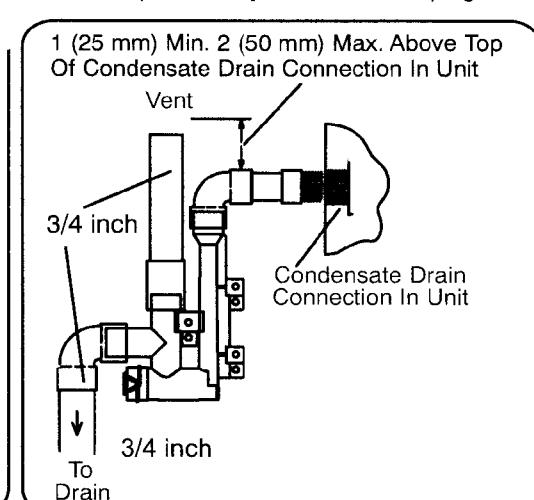

Figure 43
3. Install the cap over the clean out opening at the base of the trap. Secure with clamp. See Figure 43.
4. Install drain trap using appropriate PVC fittings, glue all joints. Glue the provided drain trap as shown in Figure 43. Route the condensate line to an open drain. *Condensate line must maintain a 1/4" downward slope from the furnace to the drain.*